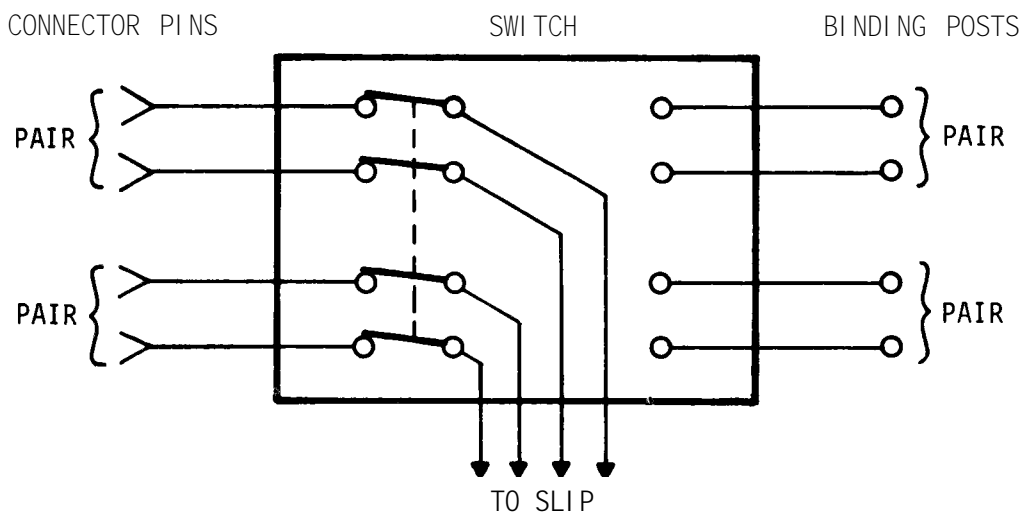

Figure 2-17. Connector/Binding Post Switching
(1) Toggle switches select lines from either the connector or from the binding posts for connection to the van communication circuits. Four lines (two pairs) from the connector and four lines (two pairs) from the binding posts connect to each switch (fig. 2-17).